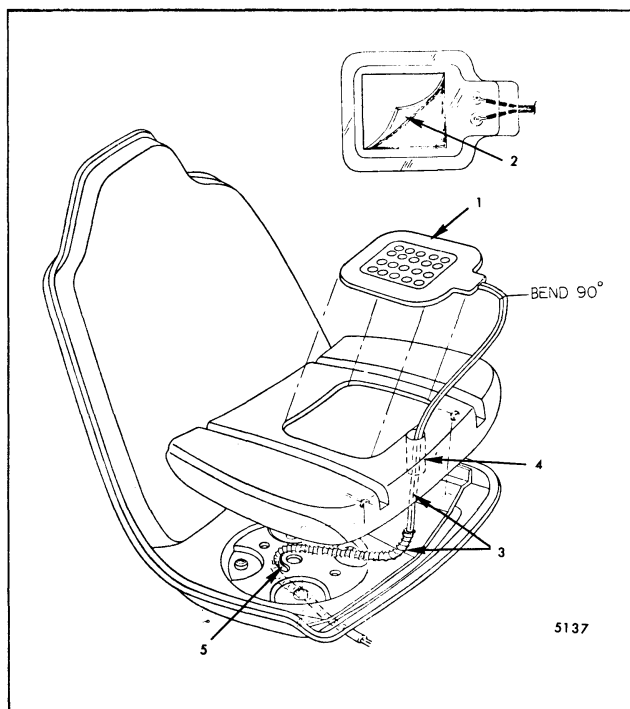

Fig. 9-89-Lap Belt Warning Light and Buzzer Sensor Switch - Swivel Shell Bucket Seat
3. Carefully break cement bond securing sensor switch to foam pad; then, with seat in forward position pull sensor wire up through holes in swivel assembly and hole in foam pad and remove switch and wire (see Fig. 9-89).
4. To install sensor switch, reverse removal procedure. Prior to installing a new sensor switch, remove adhesive protective paper from bottom surface of switch (see Fig. 9-89).